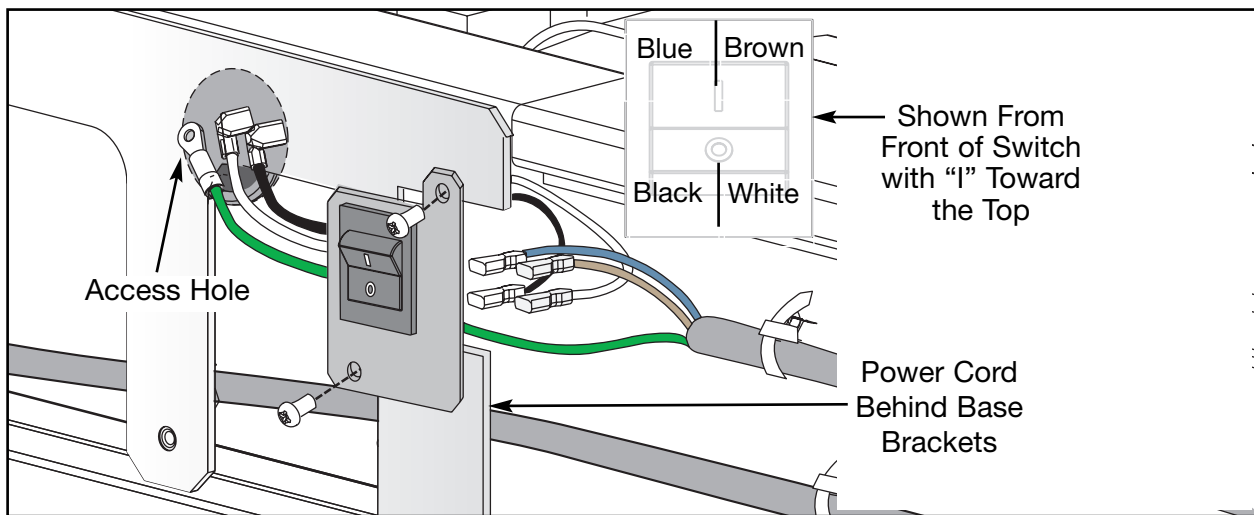

Figure 18
- A.** Hold the power switch and its plate so that the I (on) is toward the top. See Figure 18.